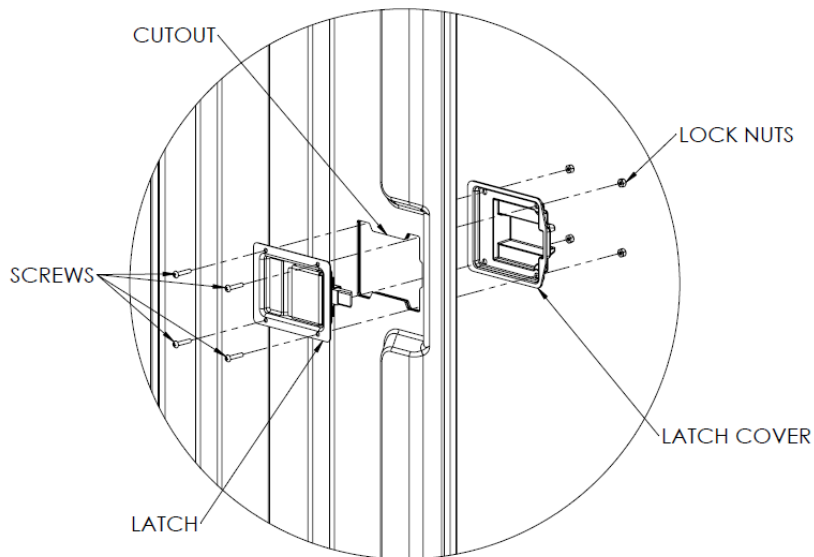

FIG. 1
- STEP 3:** PASS THE INCLUDED SCREWS THROUGH THE HOLES ON THE LATCH AND LATCH COVER AND INSTALL THE INCLUDED NYLON LOCK NUTS. (SEE FIG. 1)